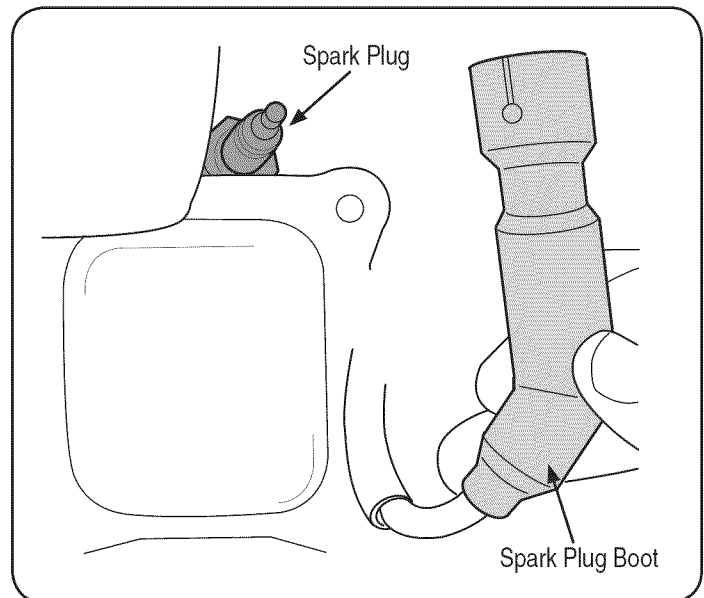

Figure 18
1. Remove the spark plug boot and use a spark plug wrench to remove the plug, Figure 18.